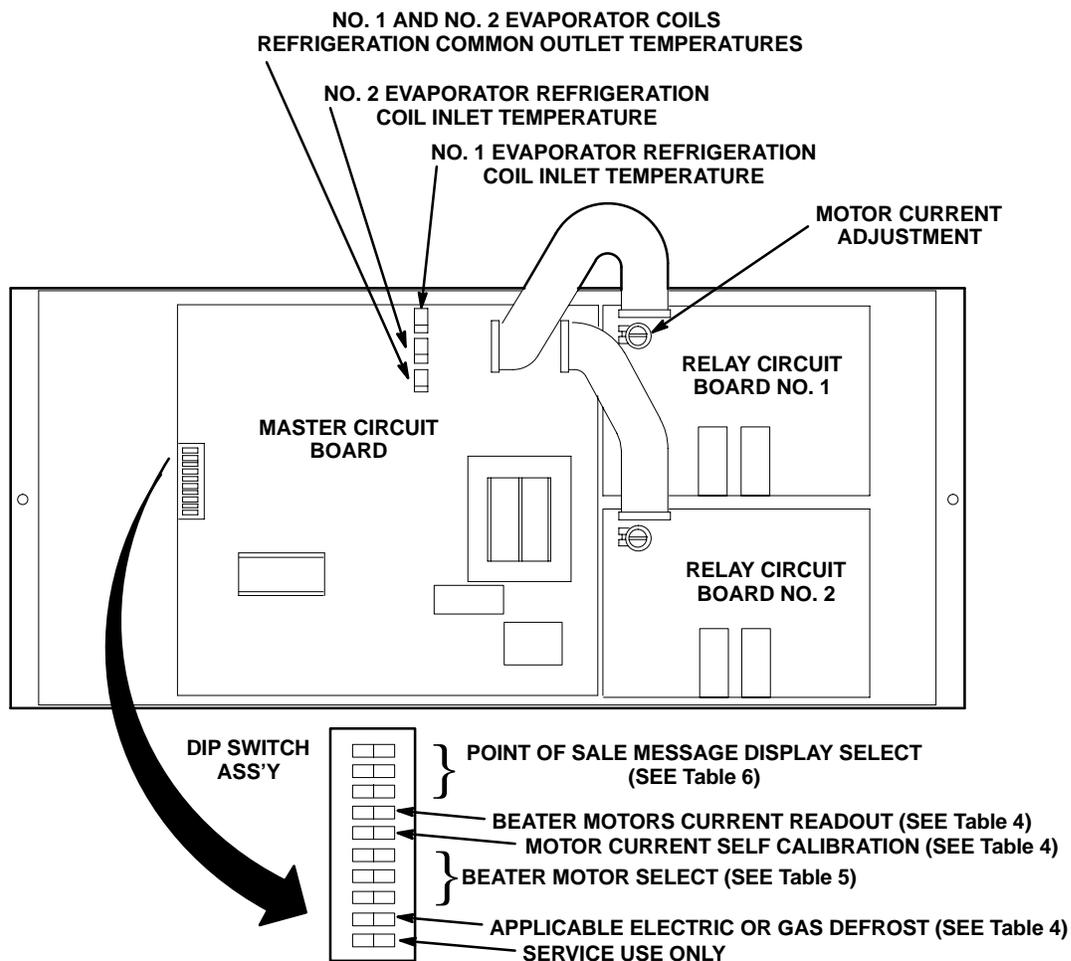

FIGURE 10. MASTER AND RELAY CIRCUIT BOARDS
1. Place No. 4 “BEATER MOTOR CURRENT READOUT” switch on DIP SWITCH assembly on master circuit board (see Figure 10) in “ON” position. Both freeze cylinders beater motors will start and operate and beaters motors current ratings will be displayed on message display.
2. Display should be adjusted to read A150 B150 2 by adjusting MOTOR CURRENT ADJUSTMENTS located on No. 1 and No. 2 relay circuit boards (see Figure 10). These figures will fluctuate slightly with variations in line voltage and motor loads.
3. After completion of adjusting beater motor currents to A150B150 2, make sure No. 5 “MOTOR CURRENT SELF-CALIBRATION” switch on DIP SWITCH assembly on motor circuit board (see Figure 10) is in “OFF” position. No. 5 switch in “OFF” position allows the “MOTOR CURRENT SELF-CALIBRATION” electronics to automatically self calibrate the beaters motors currents at completion of each defrost cycle.
PROGRAMMING POINT OF SALE MESSAGE DISPLAY (see Figure 10 and Table 6)
NOTE: Point of sale display messages may be turned off by placing No. 1, No. 2, and No. 3 switches on master circuit board (see Figure 10 and Tables 4 and 6) assembly in appropriate positions.
Three point of sale display messages are available to choose from and may be programmed by placing switch No. 1, No. 2, and No. 3 on DIP SWITCH assembly on master circuit board in appropriate positions. See Figure 10 and Tables 4 and 6 and program desired point of sale display message which will be displayed on message display.